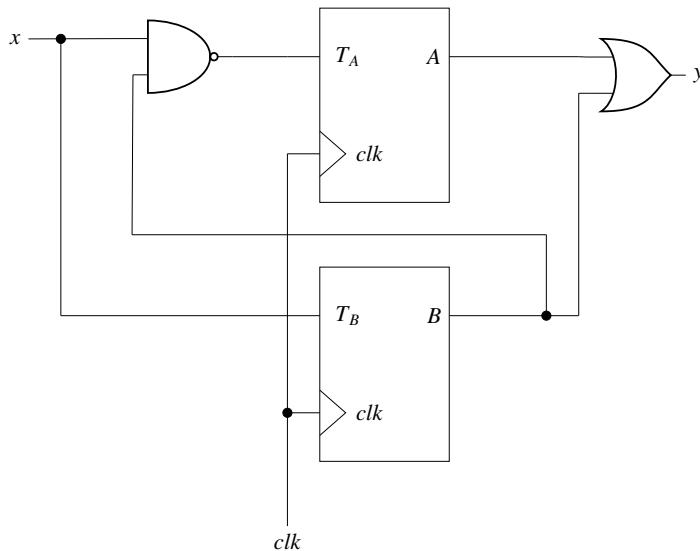

Fig. 5.24
25. Two T-flip flops are interconnected as shown in Fig. 5.24. The present state of the flip flops are: $A = 1, B = 1$. The input x is given as 1, 0, 1 in the next three clock cycles. The decimal equivalent of $(ABy)_2$ with A being the MSB and y being the LSB, after the 3rd clock cycle is _____. (GATE IN 2020)